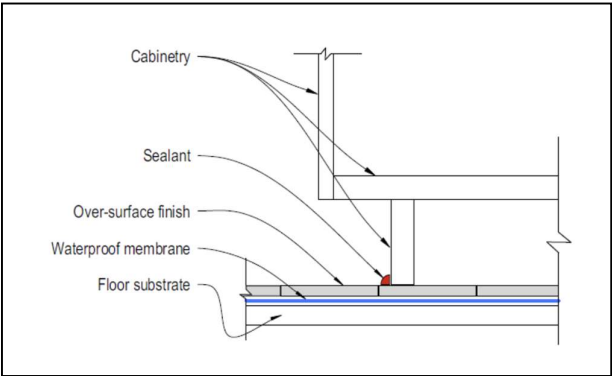

Figure 16: Tiles and waterproof membrane system under cabinet
- ✓ Figure 16: Tiles and waterproof membrane system under cabinet